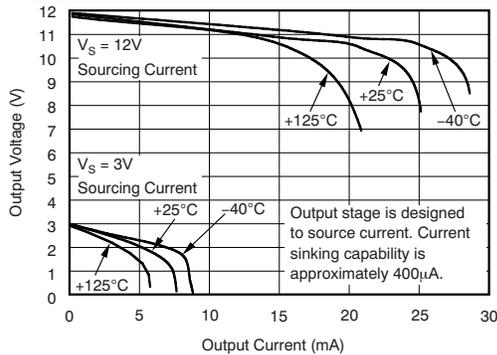

图 8. Positive Output Voltage Swing vs Output Current
(2) Total output error includes effects of gain error and  $V_{OS}$ .
(3) Linearity is best fit to a straight line.
(4) For details on this region of operation, see Accuracy Variations section in Device Functional Modes.
(5) See Figure 8.
(6) Specified by design.